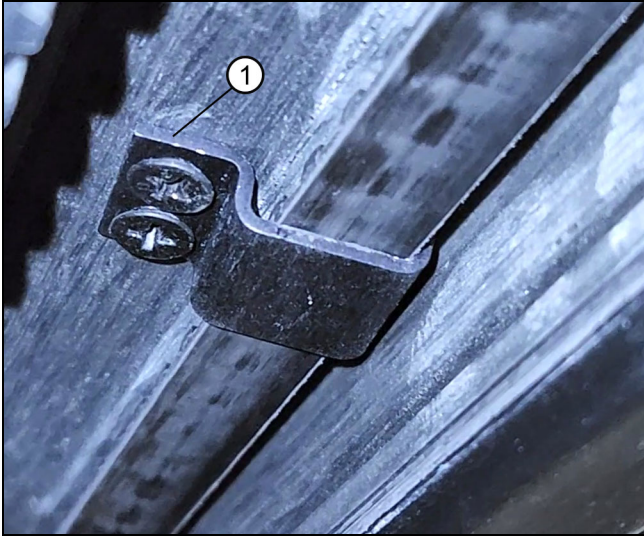

Figure 56
1. On large units, the belt clips can be installed to eliminate belt sag. Use the belt clip to hold the belt **(opposite of the turnbuckle or bi-parting bracket)** with teeth up against the head track. Fasten the belt clip in the head track with the screws provided. Pre-drilling may be necessary. See Figure 56.